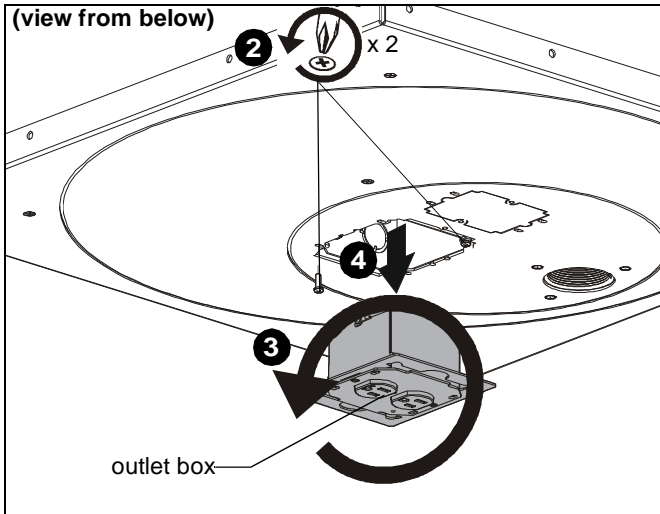

Figure 8
- Remove one Phillips head screws holding outlet box to outer housing and loosen the other one. (See Figure 8)
- Rotate outlet box counter-clockwise until it is free to be removed from housing. (See Figure 8)
- Remove outlet box from housing. (See Figure 8)